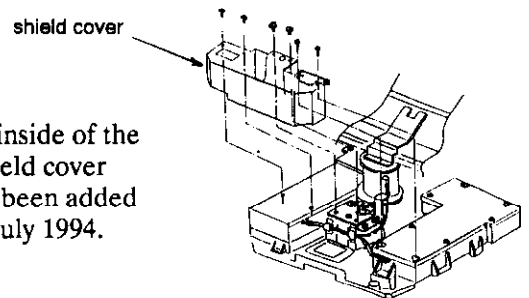

Figure 5-6 Cable connection and grounding inside the scanner unit
- 9) Mate plug P801 (9 way) to jack J801 and plug P802 (4 way) to jack J802 on the MD Board. Remove the lid of the IF Board and then connect plug P611 (14 way) to jack J611. See Figure 5-6.